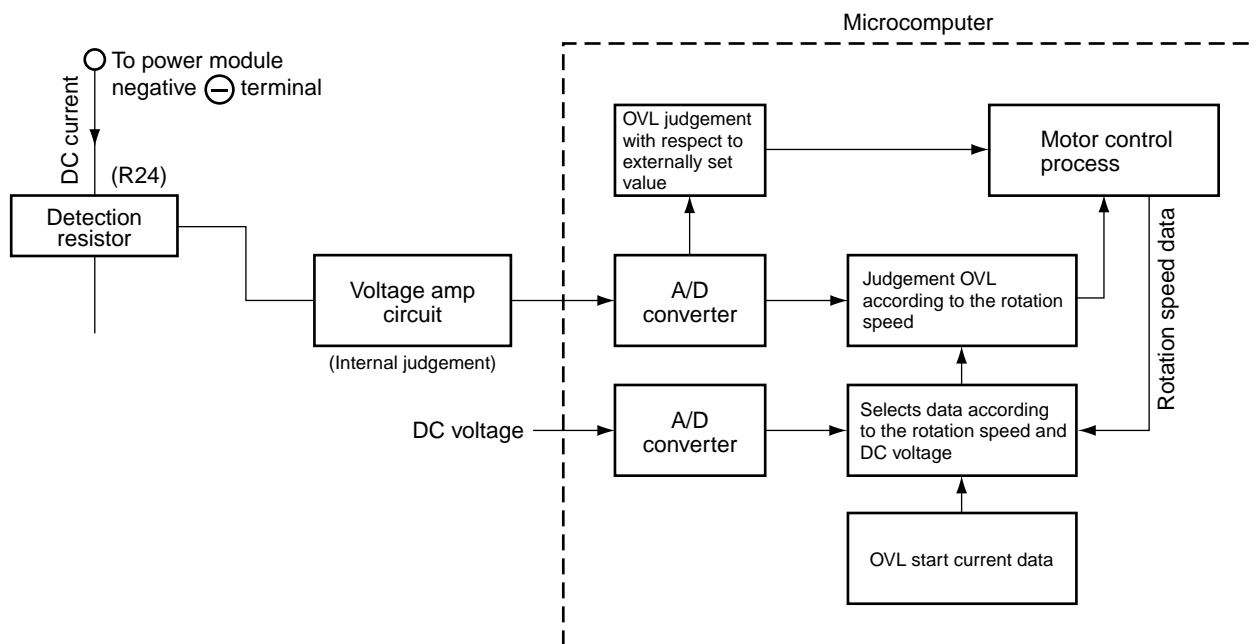
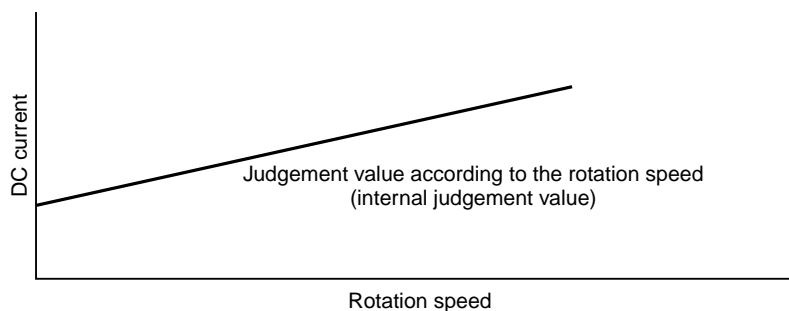

Fig. 8-4 Overload Control System Configuration
Fig. 8-5
- As shown in diagram, if current exceeding 27A flows, voltage at point (A) recognized by detecting resistor is input to pin (10) of SPM2 – HIC, and voltage divided by R41 and R43 is input to pin (9) of IC1. Since threshold of IC1 is exceeded in this case, Lo signal is input from pin (8) (Voltage at point (B)). When Lo signal is input to pin (17) of microcomputer, microcomputer stops drive output.
(2) Overload control circuit (OVL control circuit)
- Fig. 8-4 shows the overload control system configuration and Fig. 8-5 is a characteristic diagram of overload judgement values. There are two judgement methods-external judgement which compares the externally set value with the DC current value regardless of the rotation speed and internal judgement which compares the set value that varies according to the rotation speed programmed in the microcomputer software with the DC current value.